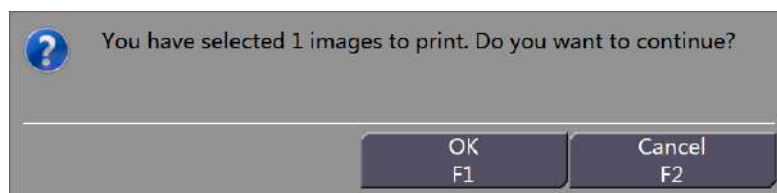

Figure 14-8 Prompt for Image Printing
Step 3 Click “Print” to display a dialog box, as shown in Figure 14-8. To print the images, click “OK”; otherwise, click “Cancel”.